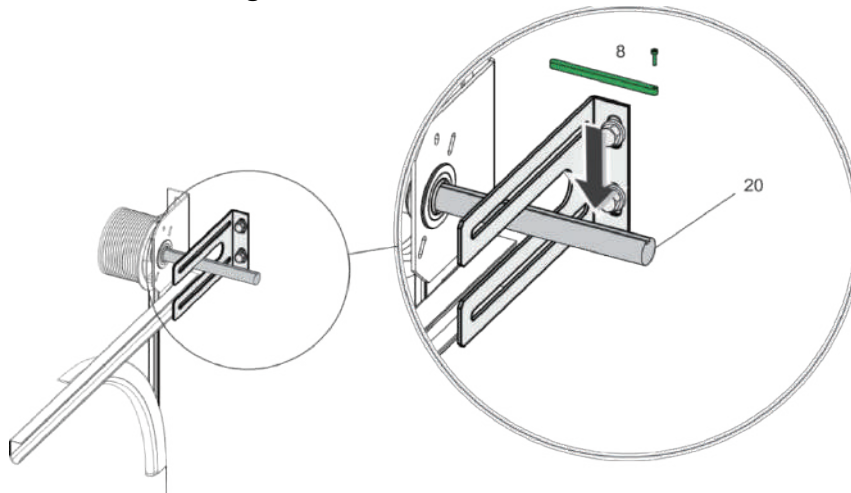
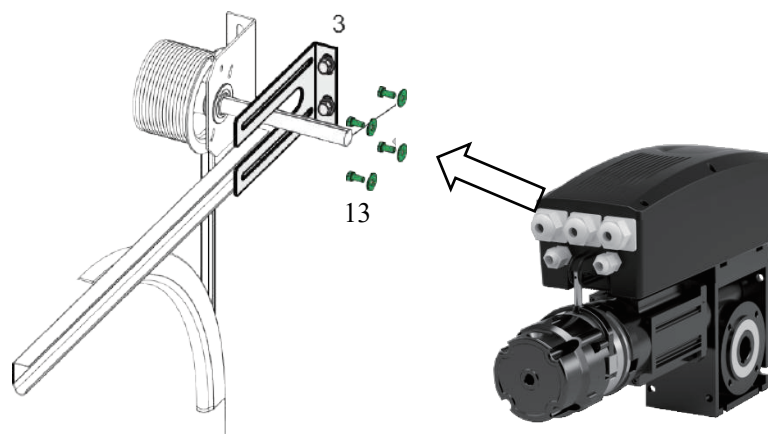

Fig2
Fig 3
Install the key (8) in the groove of the drive shaft for the door so that is secured against movement in Fig2.
- Position the drive shaft for the door operator such that it is suitable for the position of the anti-twist device (key, position 8 in Fig. 2). To do this, turn the transmission via the emergency operation.
Slide the door operator onto the door drive shaft (20) in Fig. 2. Secure the door operator with the 4 screws and washers (13) in Fig. 3.